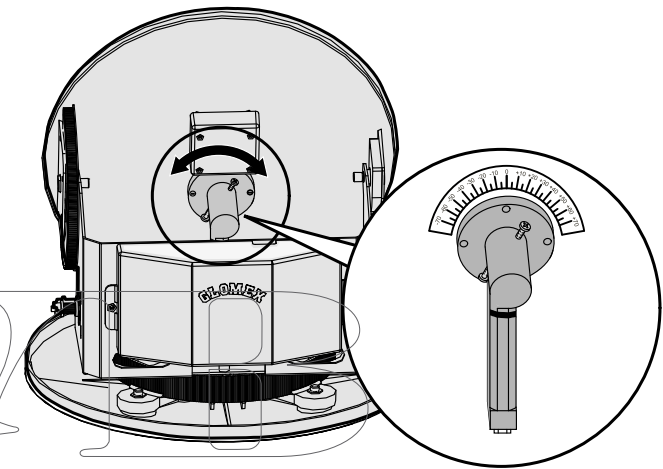

Fig. 19
- loosen the 2 screws fastening the LNB to the dish (see Fig. 19) and manually move the dish, using the parameter of signal quality of the digital receiver in use as a reference for correct calibration (please refer to the receiver's manual). Calibration does not need to be changed if the boat remains in the same area and receives transmission from the same satellite.